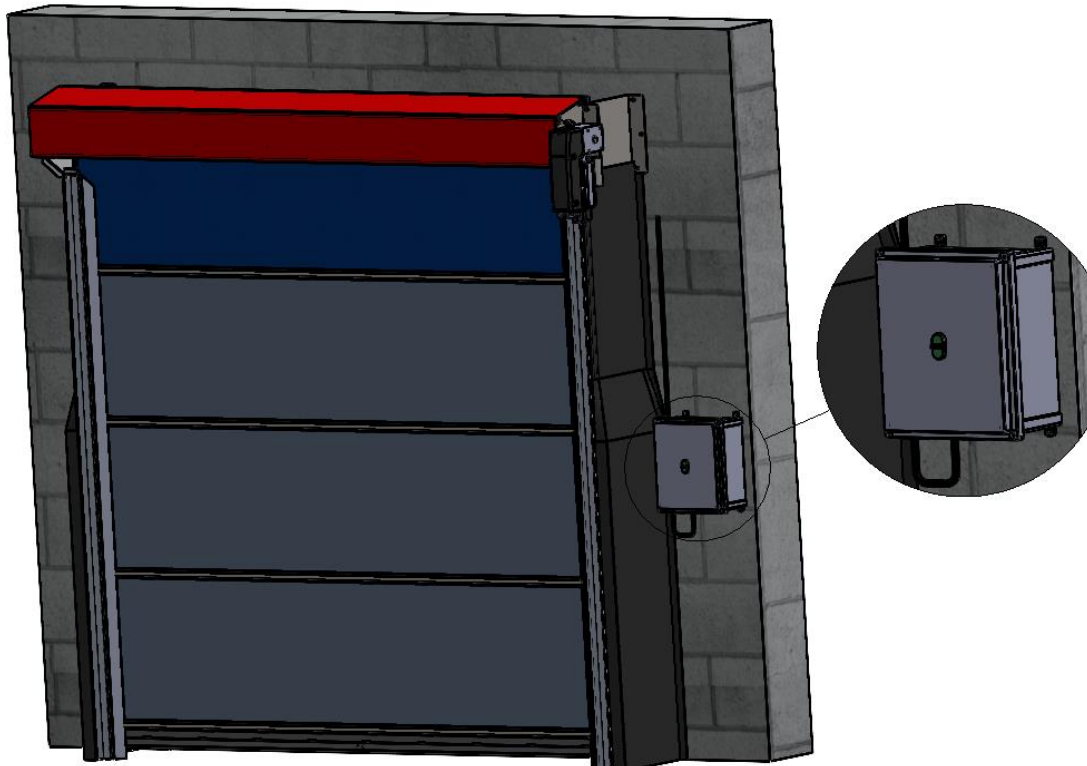

Figure 7 CONTROL BOX LOCATION
3. Have a qualified Electrician mount the Switch Control Box, route, and connect all wiring before applying power to the Door Assembly. (Figure 7 CONTROL BOX LOCATION)